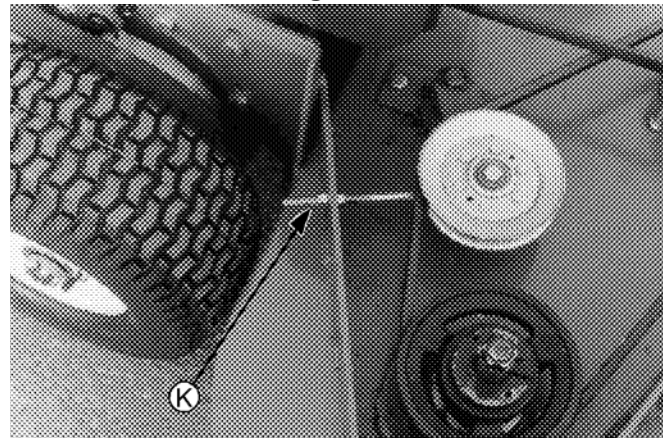

Figure 8
- e. (48" ONLY) Loosen the idler pull rod which holds the idler pulley tight against the short blade drive belt. (Item K, Figure 8.)